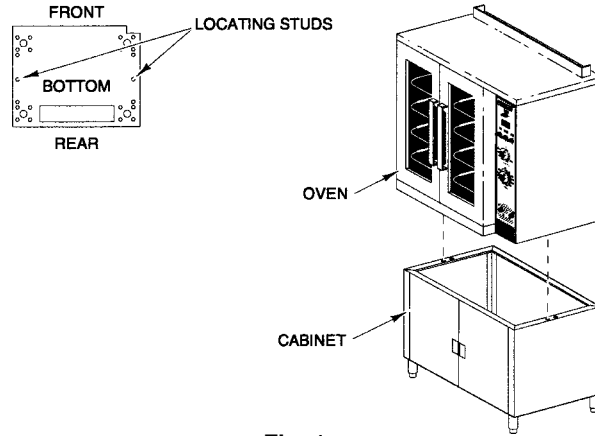

Fig. 1
1. Screw two locating studs (found in cabinet base or stand carton) through the cabinet top flange or the stand base bottom into bottom of oven (Fig. 1).
3. Mount the oven on top of the stand or cabinet (Fig. 1).